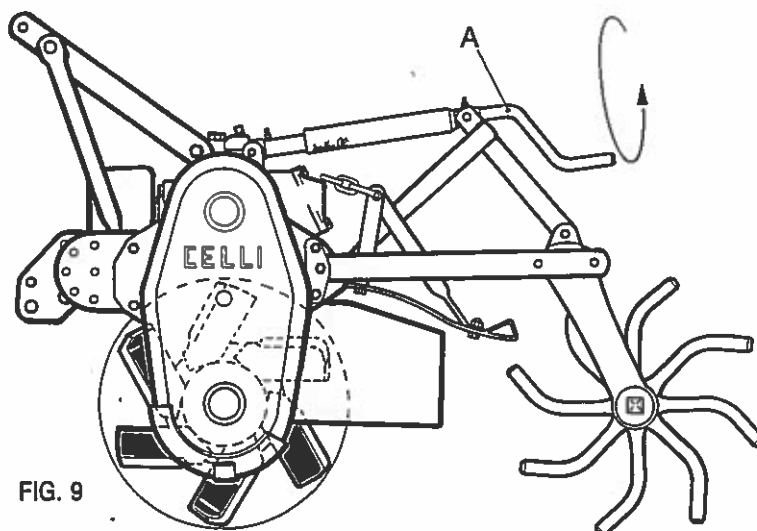

FIG. 9
LA REGOLAZIONE DELLA PROFONDITA' DI LAVORO SI OTTIENE ALZANDO O ABBASSANDO IL RULLO (FIG.9)
- AGIRE SUL MARTINETTO A VITE (FIG. 9 - POS. A) FINO AL RAGGIUNGIMENTO DELLA POSIZIONE VOLUTA
TILLAGE DEPTH CAN BE ADJUSTED BY LIFTING UP OR LOWERING DOWN THE ROLLER (FIG. 9)
- SET THE ADJUSTING SCREW (FIG. 9 POS. A) UP TO THE REQUIRED POSITION.
LE REGLAGE DE PROFONDEUR S'OBTIENT EN ABAISSANT OU RELEVANT LE ROULEAU (FIG. 9).
- AGIR SUR LE VERIN A VIS JUSQU'A LA POSITION CHOISIE (FIG. 9 POS. A)
DIE ARBEITSTIEFE WIRD DURCH ANHEBUNG UND SENKUNG DER WALZE REGULIERT (FIG. 9).
- DIE SCHRAUBENWINDE IN DIE GEWUENSCHTE POSITION VERSTELLEN (FIG. 9 - POS. A)
LA REGULACION DE LA PROFUNDIDAD DE TRABAJO SE OBTIENE LEVANTANDO O BAJANDO EL RODILLO (FIG 9).
- OPERAR CON EL GATO DE TORNILLO (FIG.9 - POS. A) HASTA ALCANZAR LA POSICION DESEADA